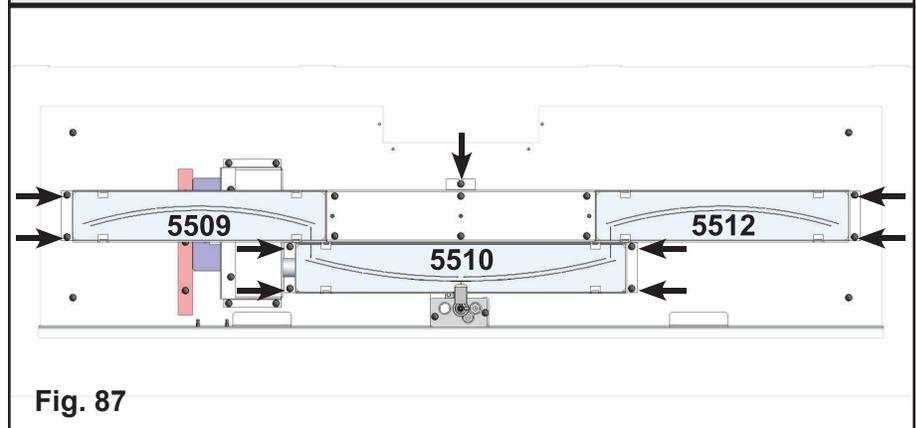

Fig. 87
6. Remove the dual rear burner assembly by removing the five screws shown in **Fig. 87**. Slide the burner assembly to the right to disengage the plenum from the primary air box. Lift the assembly up and out of the firebox.
7. Remove the front burner assembly by removing the four screws. (**Fig. 87**). Slide the burner assembly to the right to disengage the plenum from the primary air box. Lift the assembly up and out of the firebox.